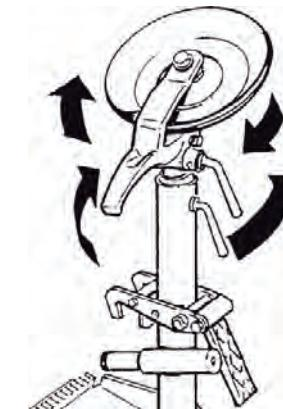

fig.5
**BRACCIO OPERANTE (Fig.5)**
**WORKING ARM (Fig.5)**
**BRAS OPERANT (fig.5)**
**ARBEITSARM (Abb.5)**
**BRAZO OPERADOR (fig.5)**